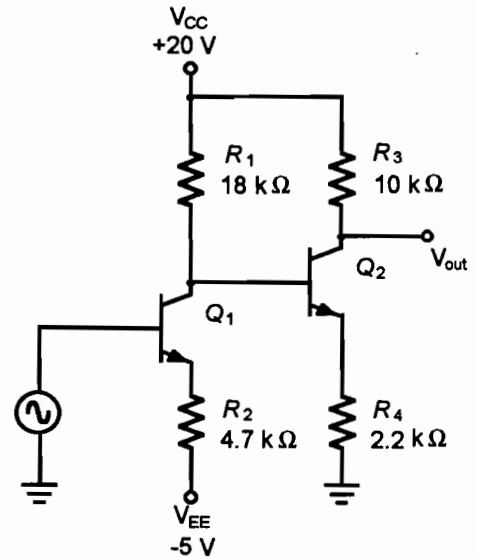

Figure 26.1
1. Refer to the circuit of Figure 26.1. To operate properly with the function generator, your direct-coupled amplifier must have the AC signal referenced to ground. Basically, this means that your function generator must have an output that swings positive and negative around a 0-V (ground) potential. The alternative would be to bias the function generator so that the positive and negative alternations would change above and below a reference potential, for example +1 V rather than a 0-V ground potential.
2. Construct the circuit of Figure 26.1.
1. With the circuit of Figure 26.1, ensure that power is off. Jumper the B-to-E junction of  $Q_2$ . Replace power and inject a 200-mVp-p, 1-kHz signal at the base of  $Q_1$ . Measure the AC and DC levels.
Considering your amplifier of Figure 26.1, identify and explain what you believe are two disadvantages of the direct coupled amplifier.
4. The load that the second stage of Figure 26.1 presents to the first stage is \_\_\_\_\_.